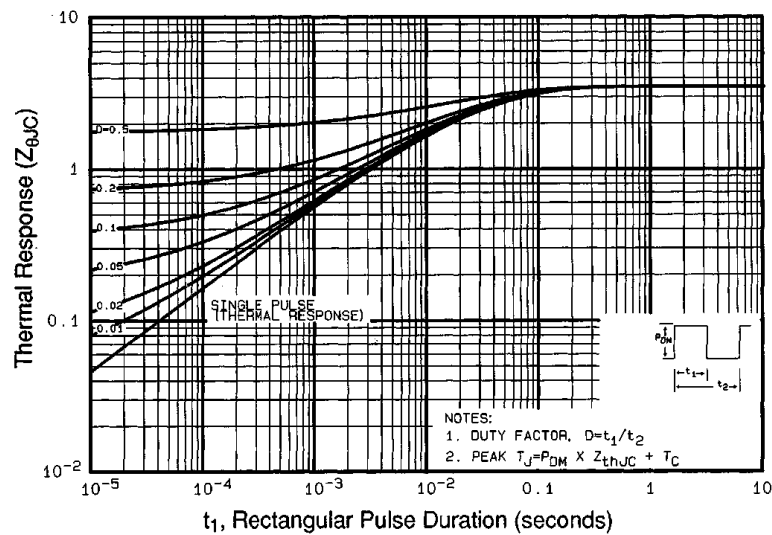

Fig 11. Maximum Effective Transient Thermal Impedance, Junction-to-Case
① Repetitive rating; pulse width limited by max. junction temperature (See Figure 11)
③ $I_{SD} \leq -6.7A$, $di/dt \leq 90A/\mu s$, $V_{DD} \leq V_{(BR)DSS}$, $T_J \leq 175^\circ\text{C}$